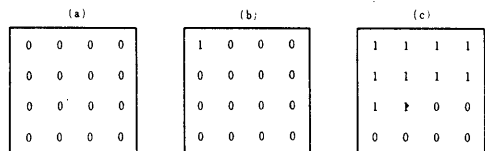

Fig. 1 Addressing method for 16 bits memory in the Marching pattern
- (1) Write "0" for all bits (Fig. 1 a).
- (2) Read "0" of 0th address and check that read data is "0". Hereafter, "Read" = "checking and judging the data."
- (3) Write "1" in the 0th address (Fig. 1 b).
- (4) Read "0" of 1st address.
- (5) Write "1" in 1st address.
- (6) Read "0" of nth address.
- (7) Write "1" in nth address (Fig. 1 c).
- (8) Repeat above procedures (6) and (7) up to the last. Finally all data will become "1."
- (9) Since all data is "1" in this condition, replace "0" and "1" after procedure (2), and repeat once more up to procedure (8).